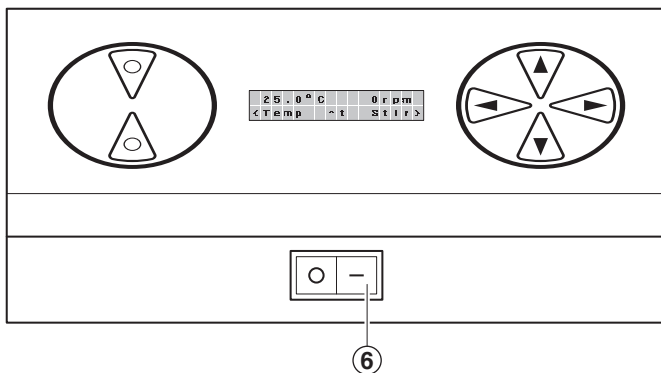
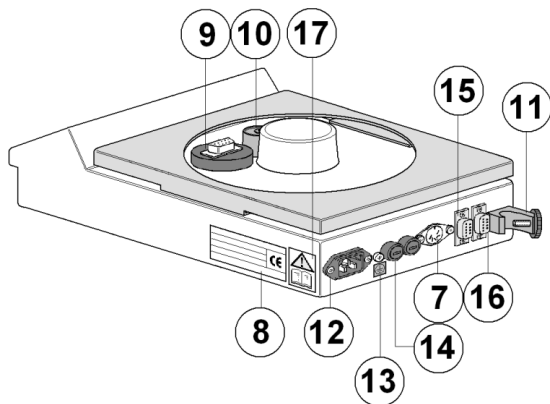

Figure 7-2
Figure 7-3
- 7.4.1. Connect the Mains cord and moulded IEC plug and lead set cable supplied with the Digi-Mantle into the mains power inlet socket (see figure 7-3, item 12). Press the On/Off switch (see figure 7-2 item 6) to the on position.